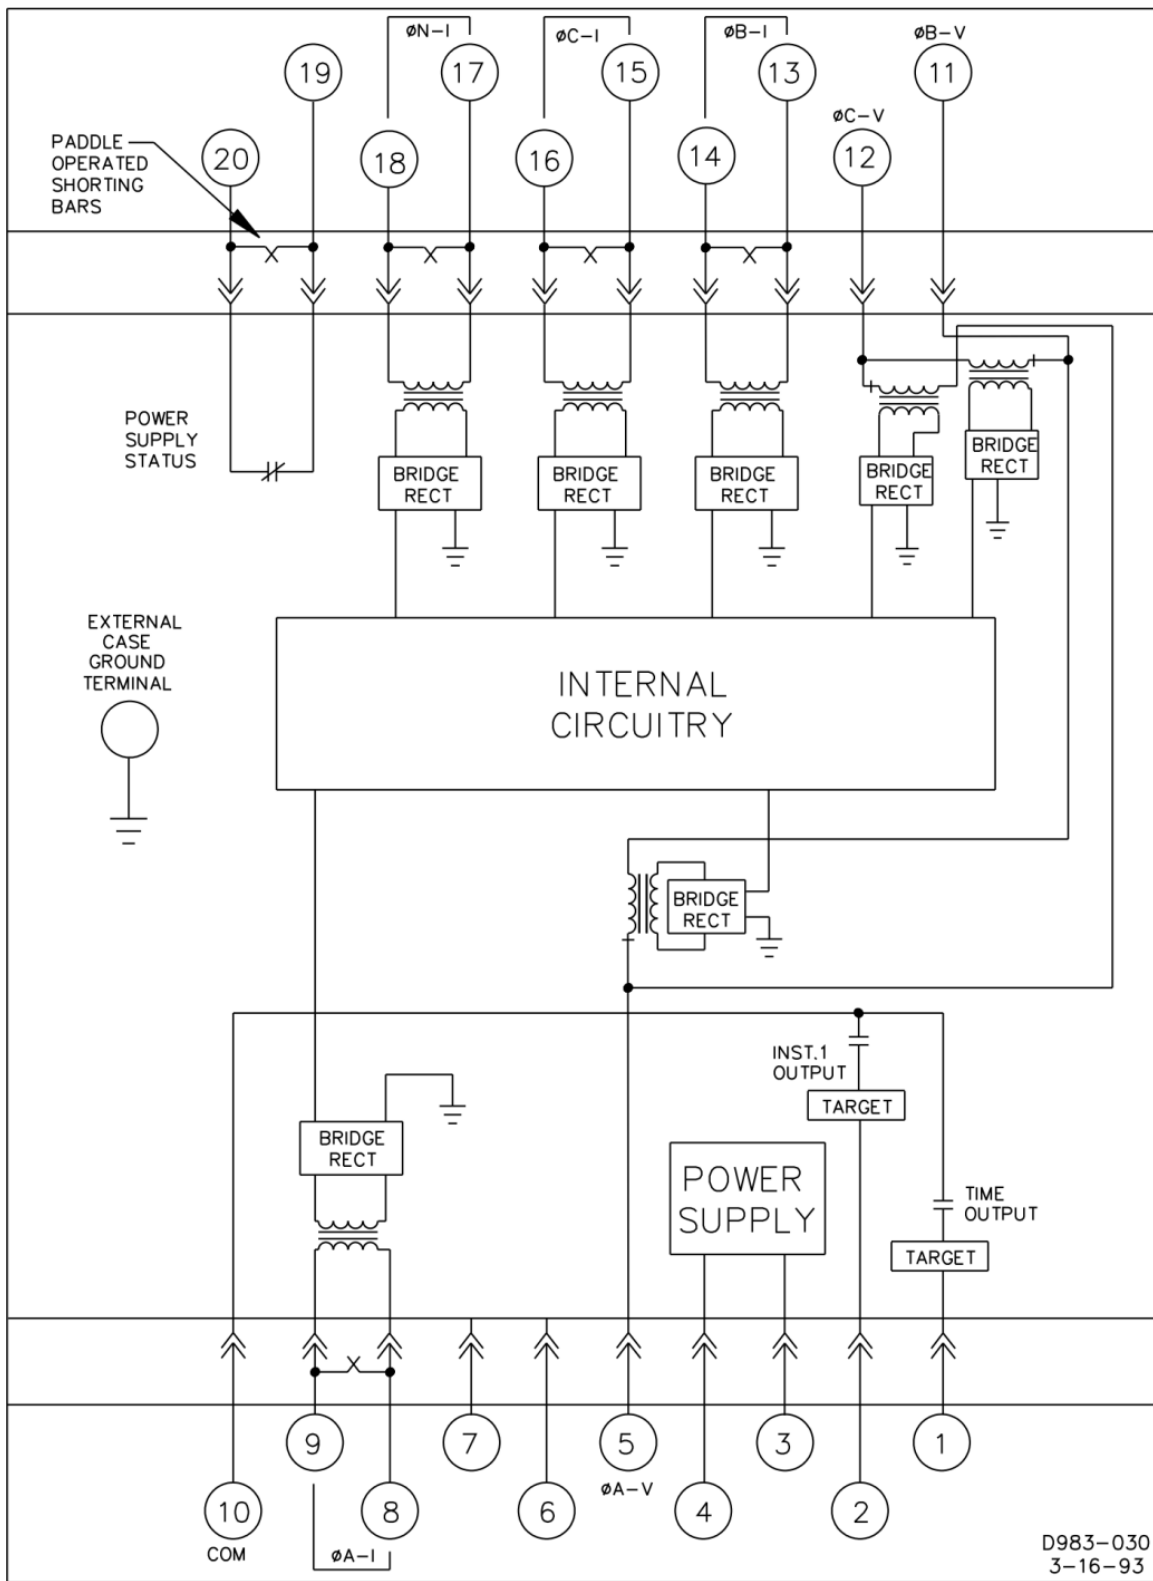

Figure 4-24. Typical Internal Diagram, Sensing Input Type E or F
- Figure 4-24: Typical Internal Diagram, Sensing Input Type E or F